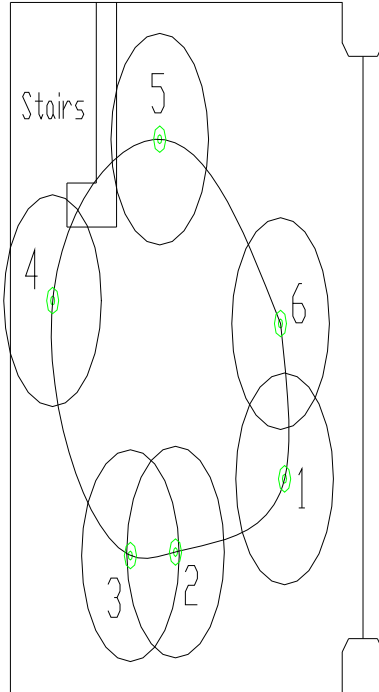

FIGURE 1
## **2.0 Existing Situation (see figure 1)**
- Figure 1 shows that removal of the rope guide has caused the ropes for bells 2 and 3 to fall too closely to each other. (The circles represent recommended safety zones of radius 600 mm around each rope, which should be largely clear of any obstructions. This allows space for personnel to ring safely (particularly when under tuition) without unduly interfering with neighbouring ringers).
- When ringing is in progress it is essential that each ringer has a clear view of the ropes of each of the other ringers. This is achieved by ensuring the ropes fall essentially in a circle, certainly avoiding any tendency for ropes to be in a straight line. Figure 1 shows that ropes 1, 2 and 3 are close to being in a line making rope sight difficult for ringers in these positions.